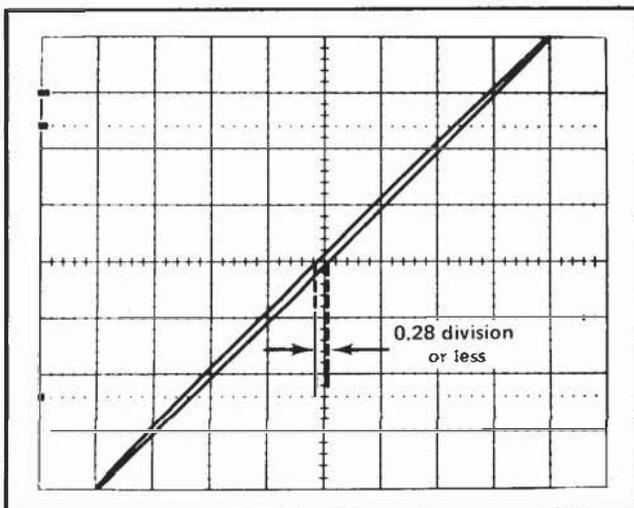

Fig. 3-7. Typical CRT display when checking X-Y phase shift.
e. CHECK--CRT lissajous display for an opening at the center vertical line of 0.28 division or less (indicates 2° or less phase shift; see Fig. 3-7).